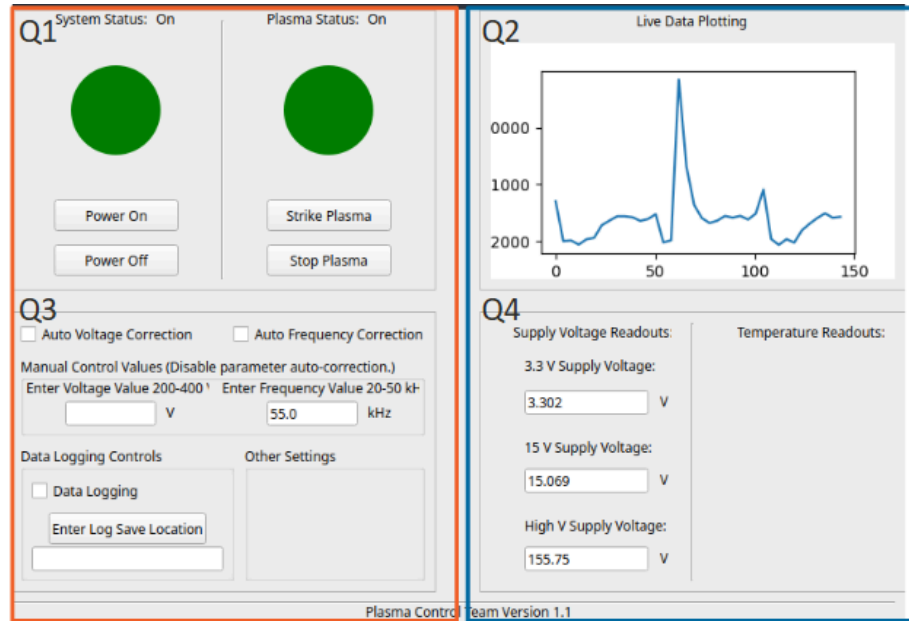

Figure 1. A screenshot of the plasma control GUI delineated by quadrant and user input/system output.
- Located in Q1 (see Fig 1.) Power On/Off buttons toggle power supply startup routine. Press “Power On” to turn on the system.
- Located in Q1 (see Fig 1.) Strike/Stop plasma buttons toggle the signal sent to the driver board (H-bridge). Press “Strike Plasma” to begin exciting the array.
- Located in Q3 (see Fig 1.)
- Located in Q3 (see Fig 1.) Press “Enter Log Save Location” to open file explorer and select or create a .csv file to capture the data from the run.
- Located in Q2 (see Fig 1.) Displays bridge current, plasma voltage and the points used in determining the frequency correction.
- Located in Q4 (see Fig 1.) Displays supply voltages as seen by the control board.
- Located in Q3 and Q4 respectively (see Fig 1.). Currently there are no features implemented that require these sections. These sections are reserved space for the future development of additional features.